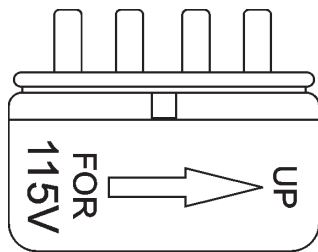

Figure 8. Voltage Change Plug
3. Turn the plug so that the side of the plug that says "Up for 115V" and the arrow points away from the motor (Figure 8).